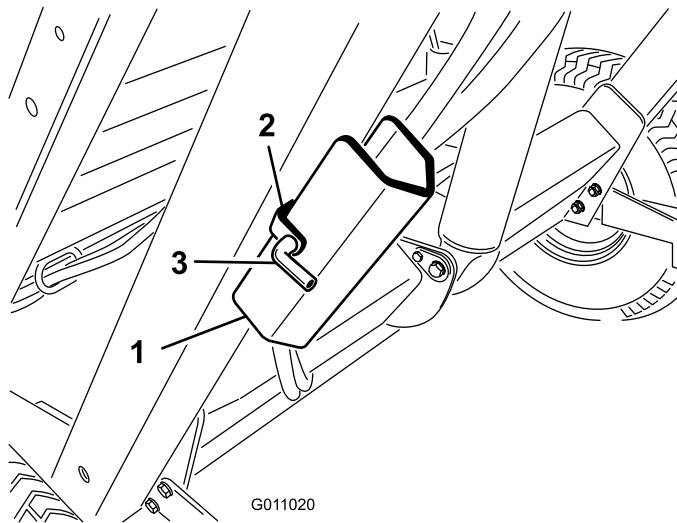

Figure 25
2. Remove the hairpin cotter and pin securing the safety support to the storage bracket on the sweeper frame (Figure 25). Remove the safety support.